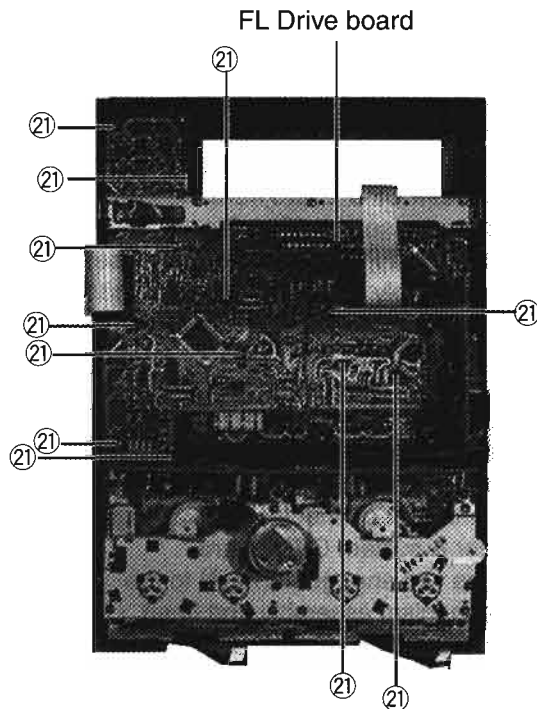

Fig. 17
(See Figs 17)**
7. Remove the eleven screws ㉑ fastening the FL drive board from the inside of the front panel assembly. (See Fig.17)